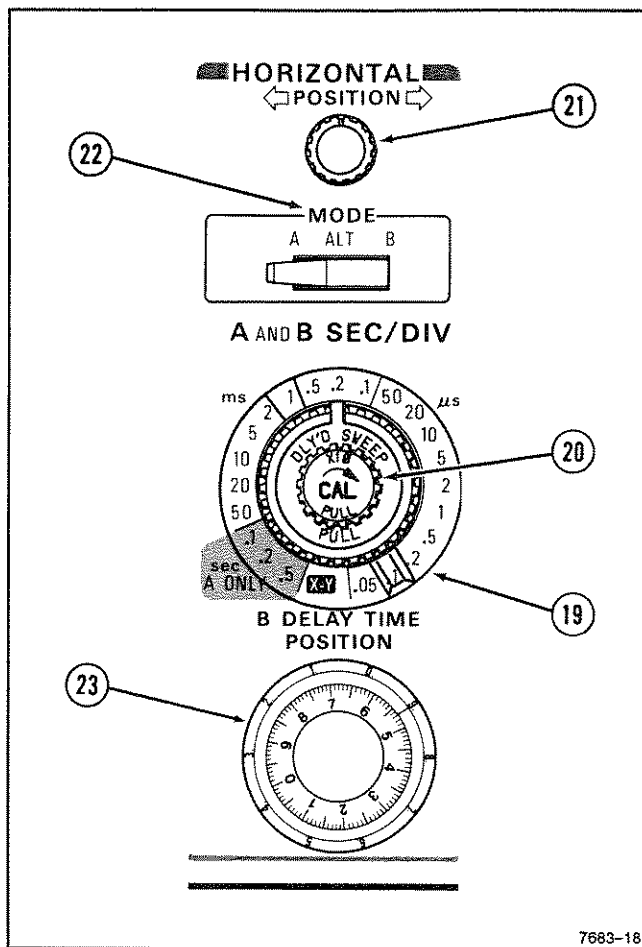

Figure 2-5. Horizontal controls and indicator.
Refer to Figure 2-5 for location of items 19 through 25.
- ⑲ **A and B SEC/DIV Switches**—Used to select the sweep speeds for the A and B Sweep generators in a 1-2-5 sequence. To obtain calibrated sweep speeds, the A and B SEC/DIV Variable control must be in the calibrated detent (fully clockwise).